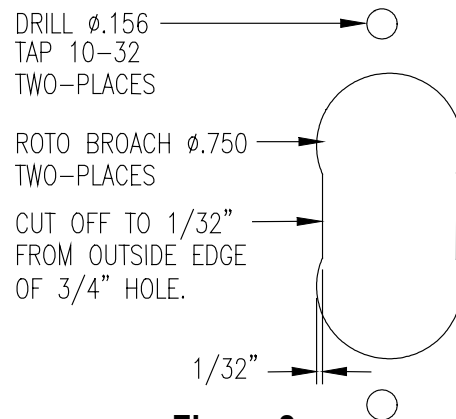

Figure 3
9. Drill the two middle center punch locations with a 3/4" roto broach. (See figure 3)
10. Use a cut off wheel attached to a dremal Tool to cut the remaining burr off to 1/32" from the outside edge of the 3/4" hole (See figure 3).